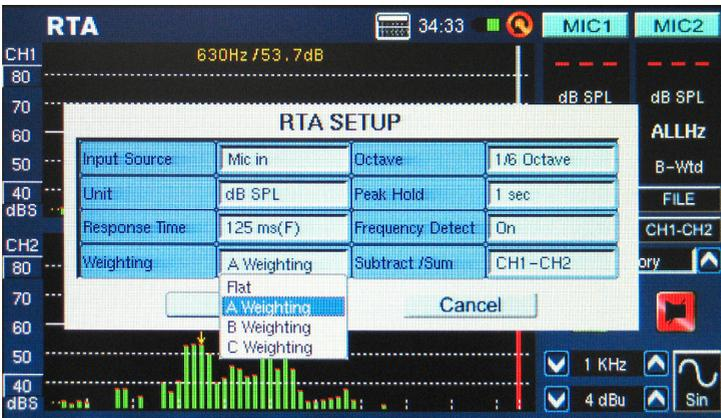

figure 20
- Also in the settings menu, set the appropriate weighting (figure 20). The most common weighting used for acoustical analysis is perhaps A-weighting, as it closely mimics the conditions of human hearing.